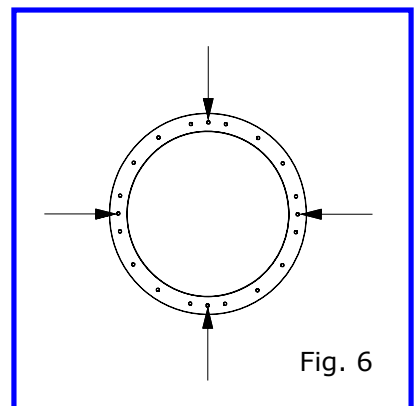

Fig. 6
- Align the holes of the niche with the holes in the panel, and fix the niche to the panel with 4 screws using the holes indicated in Fig. 6